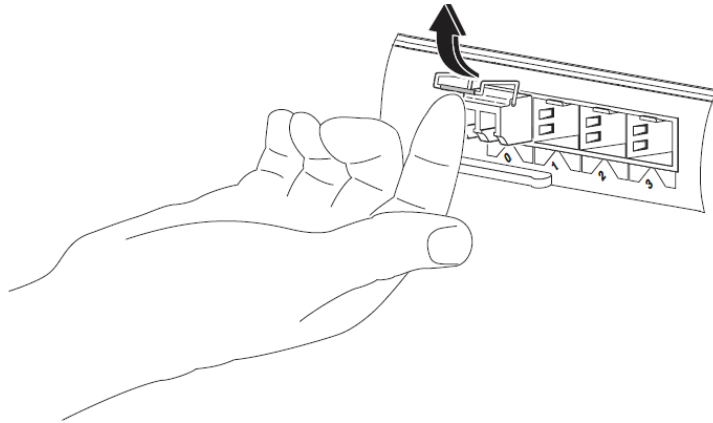

Figure 7: Opening the bale clasp of an SFP+ Module
3. Open the bale clasp on the SFP+ module with your index finger, or a small flat-blade screwdriver, in a downward direction, as shown in Figure 7.